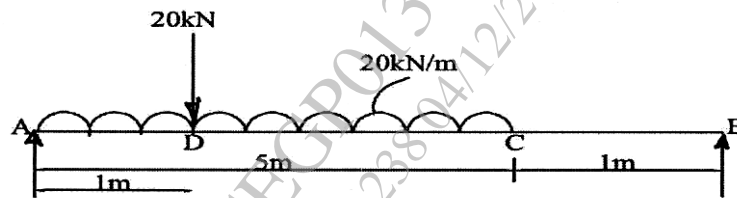

Fig. 5
5. (a) A simply supported beam loaded & supported as shown in figure. Draw SFD & BMD. Calculate maximum value of bending moment. (Fig. 5). [6]